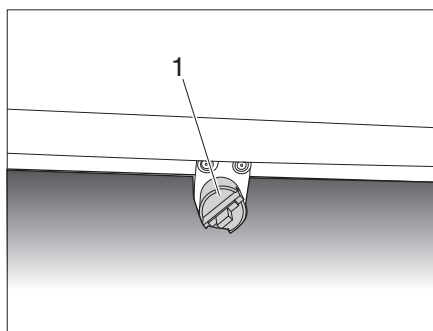
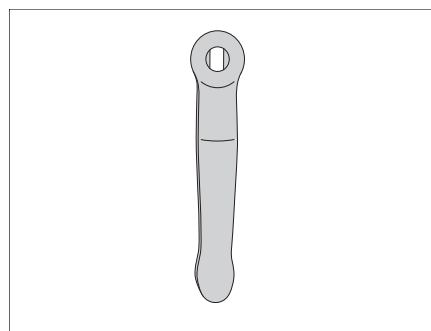
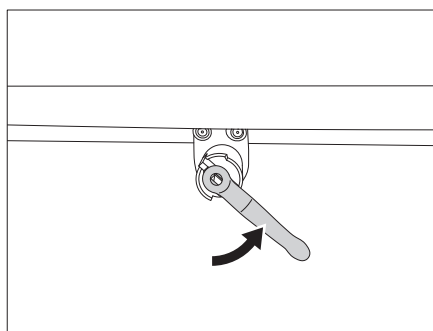

Fig. 69 Drain waste water tank
Fig. 70 Tank key
Fig. 71 Open water tap
- Put the tank key (Fig. 70) on the drain device (Fig. 69,1).
- In order to open the waste water tap, turn the tank key (Fig. 70) a quarter turn anticlockwise (Fig. 71).
- To close the waste water tap, turn the tank key (Fig. 70) back clockwise as far as it will go.
- Ensure that the drainage opening in the inside of the fresh water tank (Fig. 67), the waste water tap (Fig. 69,1) and the safety valve of the hot water boiler are closed.